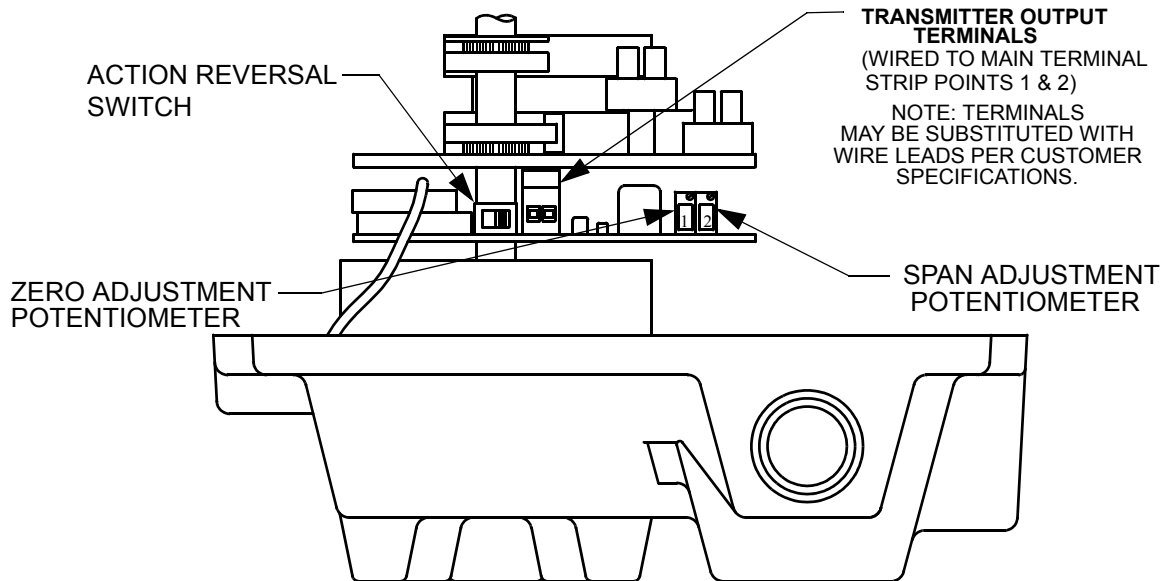

Figure 2
2. Determine the direction of the transmitter shaft rotation in relation to the opening or closing of the valve. Position the circuit board action reversal switch (see figure 2) to match the desired direction of rotation.